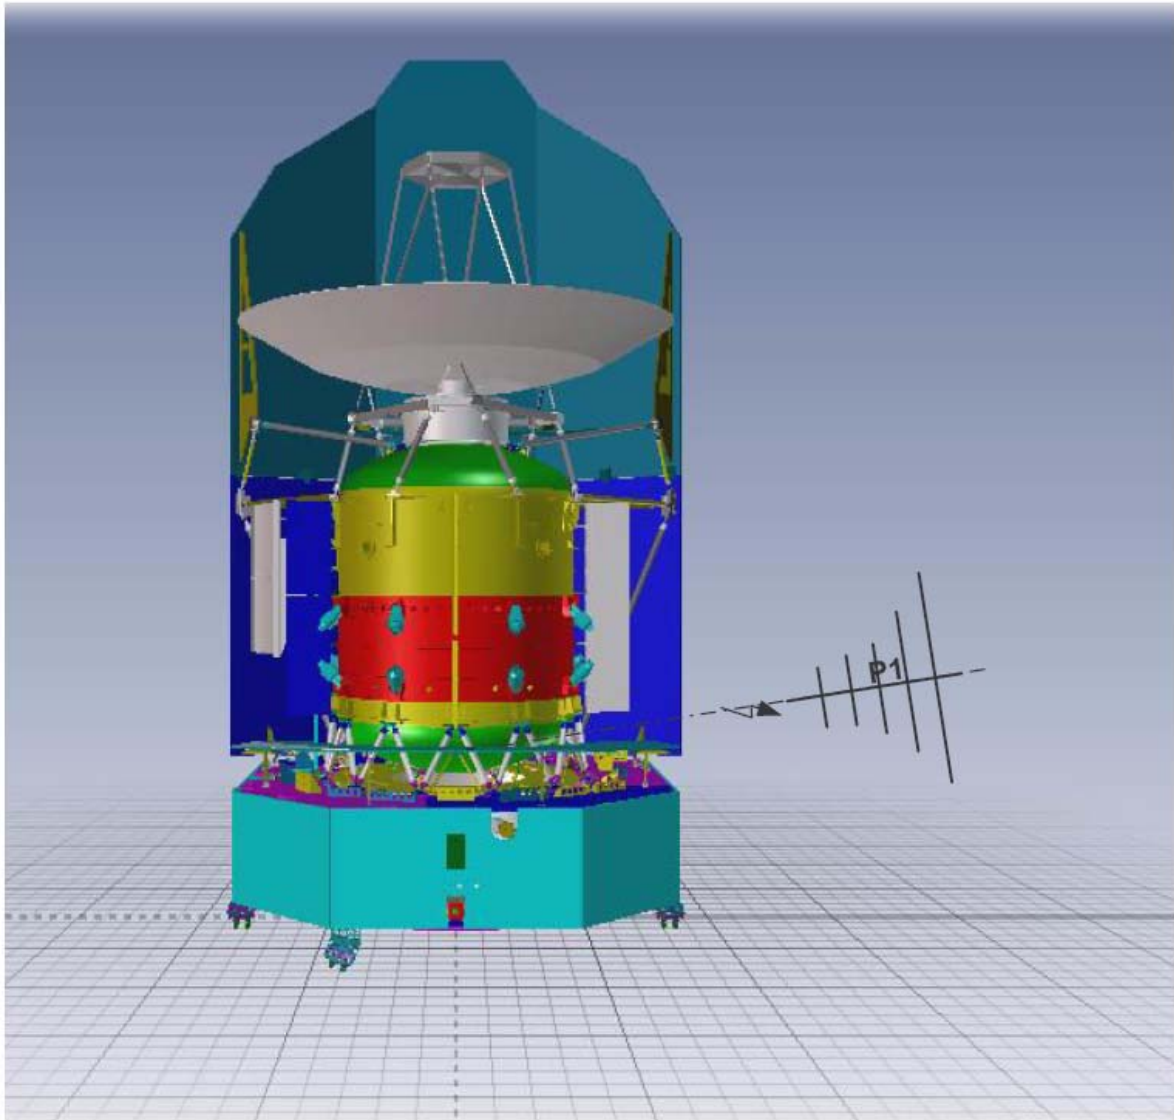

Figure 4.1-5: Antenna position P1 towards PACS
- The measurement shall be taken for vertical (V) and horizontal (H) polarisations (below 30MHz only vert).
- In Figure 4.1-5 to 4.1-7 the three antenna positions are shown. The antennas are oriented to the harness of the measured instrument. See also floor plan Figure 3.5-1.